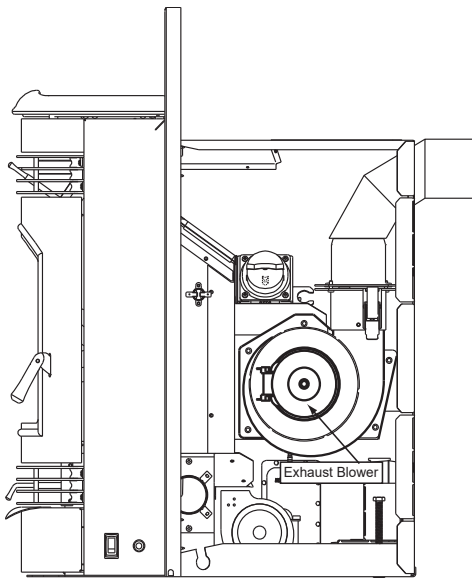

Figure 26.1
- Remove right access panel and then slide out right side panel of appliance, held in place with 2 screws, to expose the exhaust blower (**Figure 26.1**).